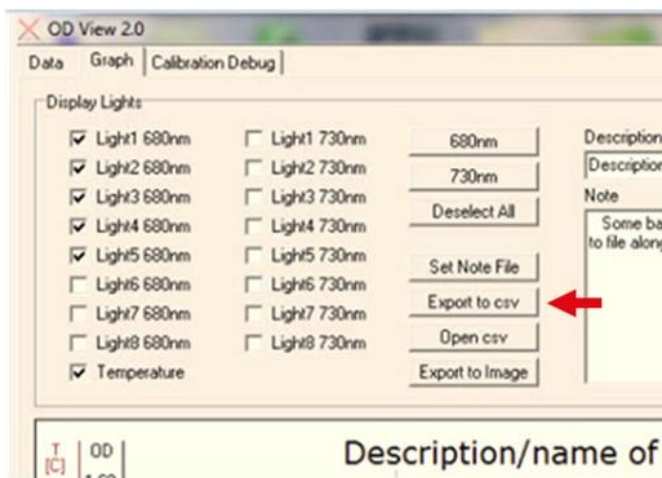

Fig. 27 Data export and data selection functions window.
67. The logged data can then be exported to .csv file using the buttons shown in Fig. 27 and further analyzed as required using a spreadsheet program such as Excel.